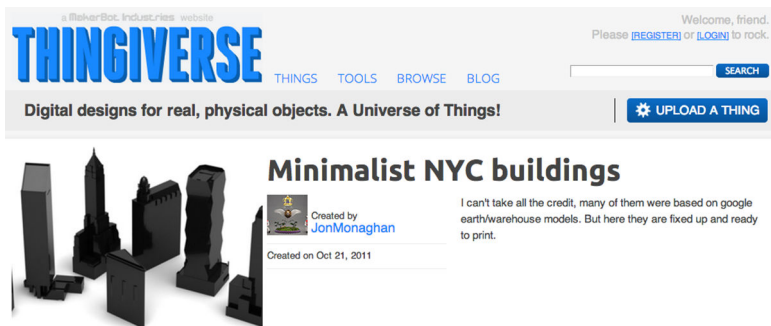

Figure 6-25. *Minimalist NYC buildings*
5. On the page for Minimalist NYC buildings (Figure 6-25), go to the Downloads section, which you'll find in a section on the left side of the page (Figure 6-26).